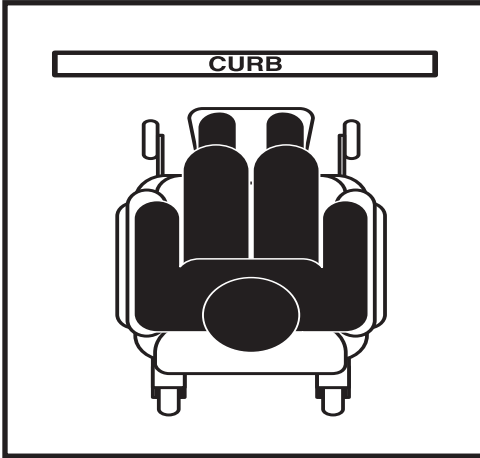

Figure 4. Correct Curb Approach
1. Approach the curb or obstacle slowly, and make sure the power chair is traveling perpendicular to the obstacle. **See figure 4.**